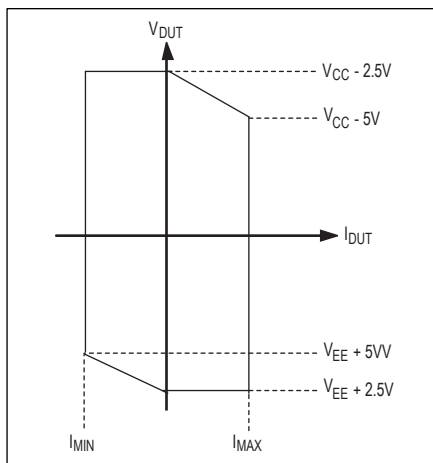

Figure 1. Output Swing
2. The voltage drop across the sense resistor and internal circuitry in series with the sense resistor. At full current, the combined voltage drop is 2.5V: 1V across the resistor and 1.5V across the switches. This voltage is not all in addition to the overhead requirement. There is some overlap of the two effects; see **Figure 1**.
Neglecting the effects of factors 3 and 4, the output capabilities of the DPS are demonstrated by **Figure 1**.
**Figure 1** shows that, for zero DUT current, the DUT voltage swing is from  $(V_{EE} + 2.5V)$  to  $(V_{CC} - 2.5V)$ . For positive DUT currents, the maximum voltage drops off linearly until it reaches  $V_{CC} - 5V$  at full current. Similarly, for negative DUT currents, the magnitude of the negative voltage drops off linearly until it reaches  $V_{EE} + 5V$ . When the DPS is driving more than  $\pm 200mA$  output current, the power dissipated by the DPS must be limited to below the power limit of the package (see the *Absolute Maximum Ratings* and *Note 2*). For example, when the DPS is driving  $\pm 1200mA$  in range A, the  $V_{CC}$  supply must not exceed +12V and the  $V_{EE}$  supply must not exceed -12V. When the DPS is sourcing current, the DUT node must not be driven below 0V. When the DPS is sinking current, the DUT node must not be driven above 0V (two-quadrant operation). When operating below  $\pm 1200mA$ , four-quadrant operation may be possible depending on the power dissipation of the DPS. Power dissipation analysis must consider variations in the power-supply voltage and the voltage difference between the DUT ground and the DPS AGND (factors 3 and 4).